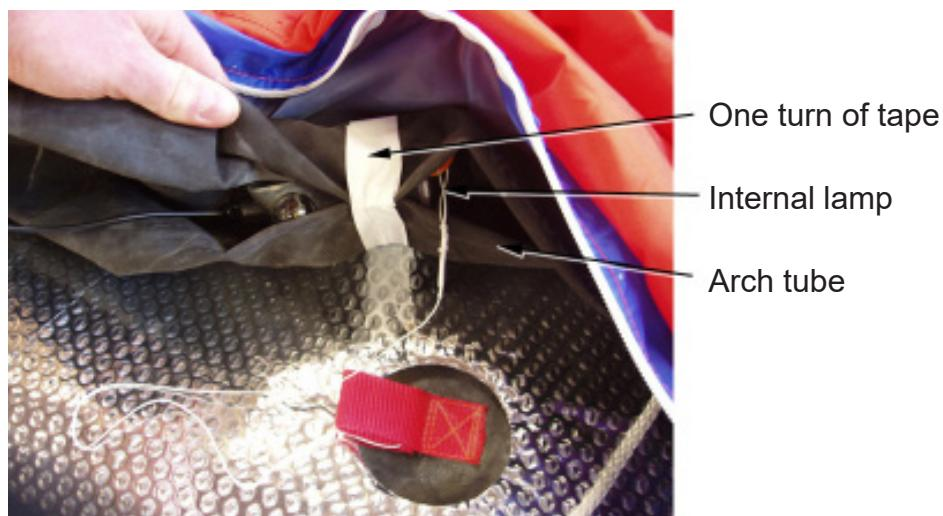

FIGURE A7-19
CAUTION: 6-8 PERSON ONLY: WRAP THE ARCH TUBE AROUND THE INTERNAL LAMP. REFER TO FIGURE A7-19.
2.42 Wrap the arch tube around the internal lamp and secure with 1 turn of 25 mm (1") tape. Refer to FIGURE A7-19. This will prevent the tension line from interfering with the lighting switch. Make sure that the floating safety knife was installed and that the flaps of the pocket are correctly closed.